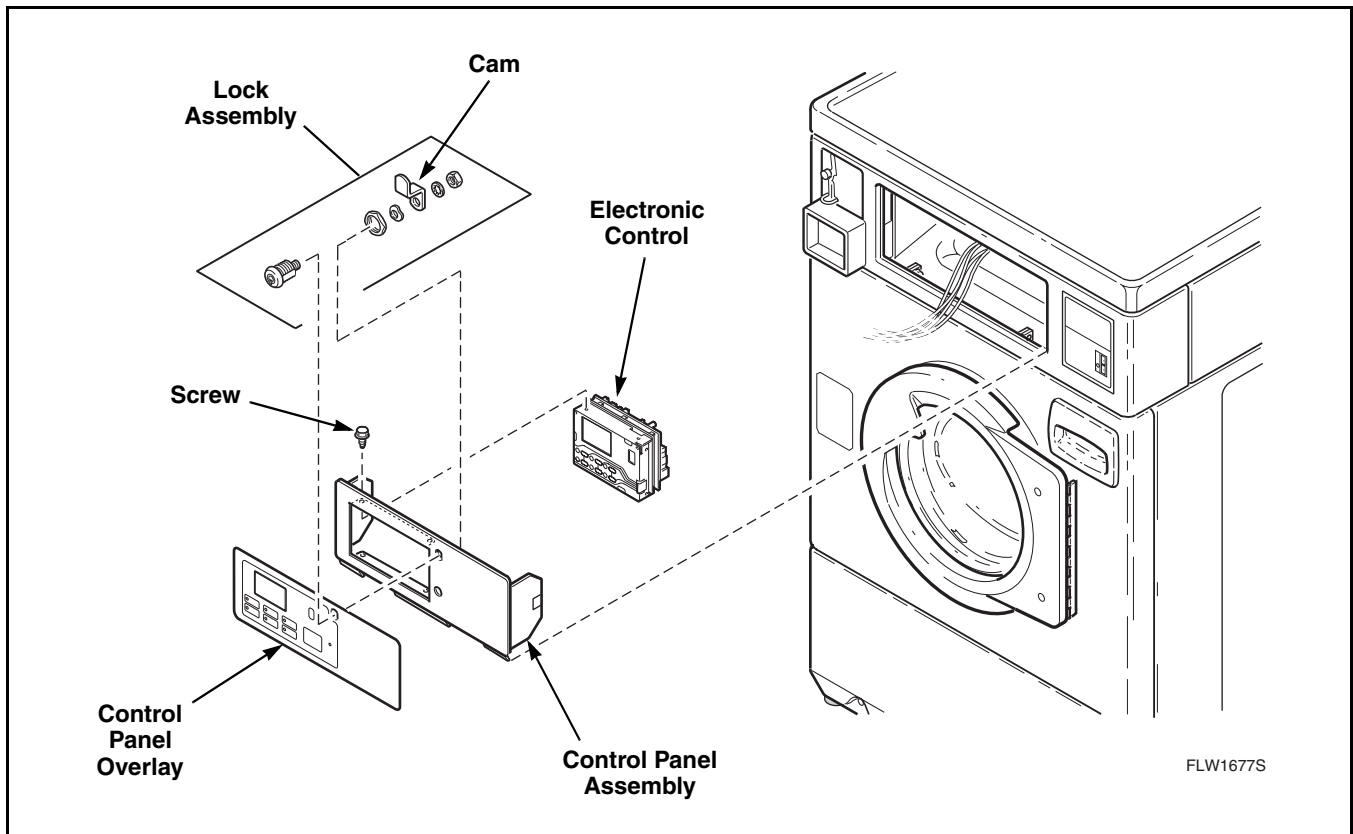

Figure 10
- e. Remove four screws holding electronic control assembly to backside of control panel. Refer to *Figure 10*.
- g. While holding new control by its metal edges, place control in opening of control panel and fasten control down with four screws removed in step "e". Refer to *Figure 10*.
NOTE: For proper control alignment, tighten the top two screws first then tighten the bottom screws. Refer to *Figure 10*.
- (5) Remove four screws holding electronic control assembly to backside of control panel. Refer to *Figure 10*.
- (6) Remove lock assembly from control panel. Refer to *Figure 10*. Remove control panel overlay by peeling it from the control panel assembly.
NOTE: Before removing protective backing from new overlay, check fit of overlay to control panel assembly. Refer to *Figure 10*. Use the lock hole in the control panel as the locating guide.
- (1) Once panel overlay is fitted to the front of control panel frame, carefully peel protective backing from the left end of panel overlay and press into place.
- (2) Remove rest of protective backing from panel overlay and press overlay into place on control panel assembly.
- (3) While holding control by its metal edges, place control in opening of control panel and fasten control down with four screws. Refer to *Figure 10*.
- (4) Follow wiring diagram and reconnect wires to control.